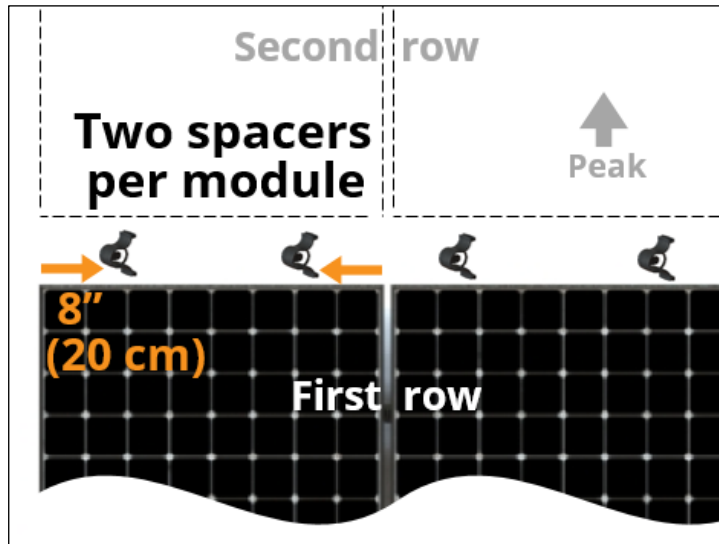
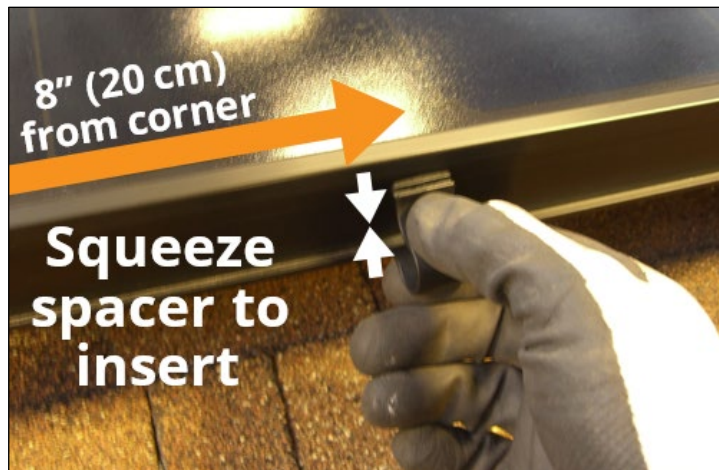

Fig. 29
Fig. 30
13. For each of the modules in the first row, fit two R2R spacers in its upper frame edge, one each approximately 8" (20 cm) from each upper frame corner (Fig. 29 and Fig. 30).